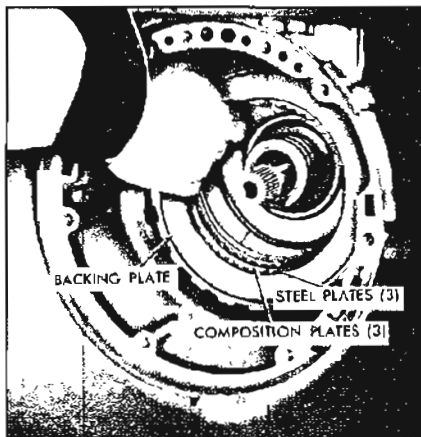

Figure 5-546
14. Remove the intermediate clutch backing plate, 3 composition, and 3 steel clutch plates. See Figure 5-546.